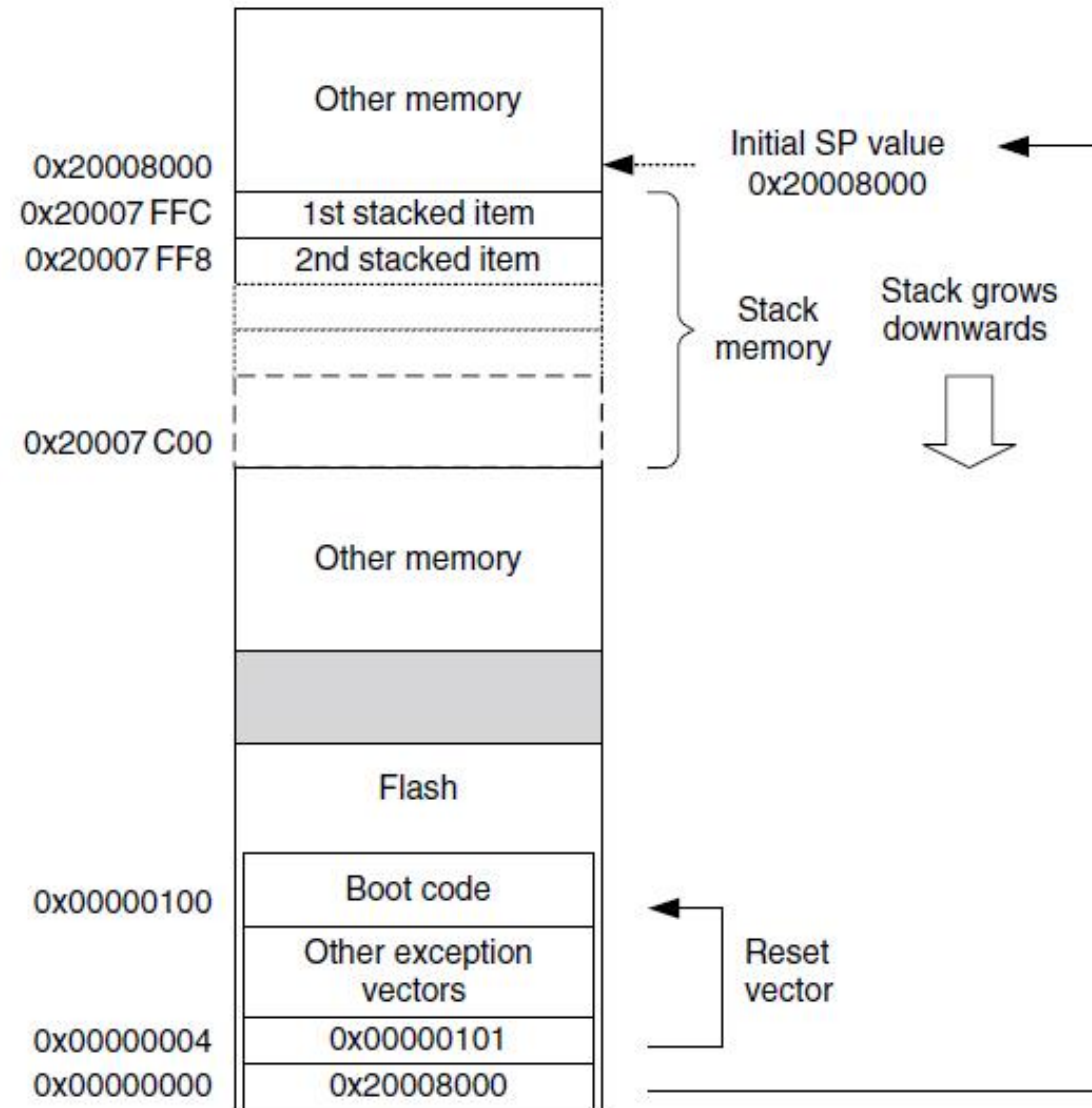

FIGURE 3.19
- For that reason, the previous example has 0x101 in the reset vector, whereas the boot code starts at address 0x100 (see Figure 3.19).